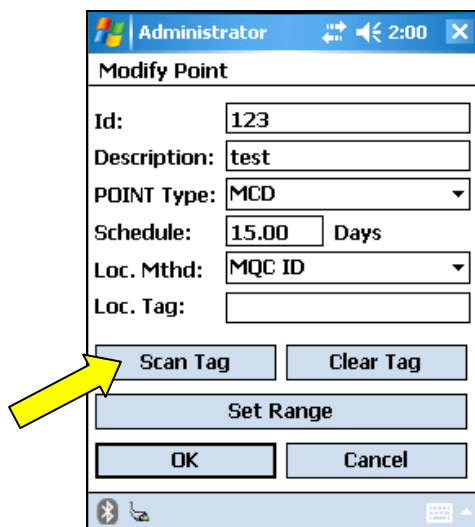

Figure 3. Scan Tag button
4. Press the **Scan Tag** button [Figure 3] to scan the connected Smart MQC's unique Location Tag identifier. The Smart MQC's Location Tag identifier will automatically be stored with the measurement in the MARLIN.